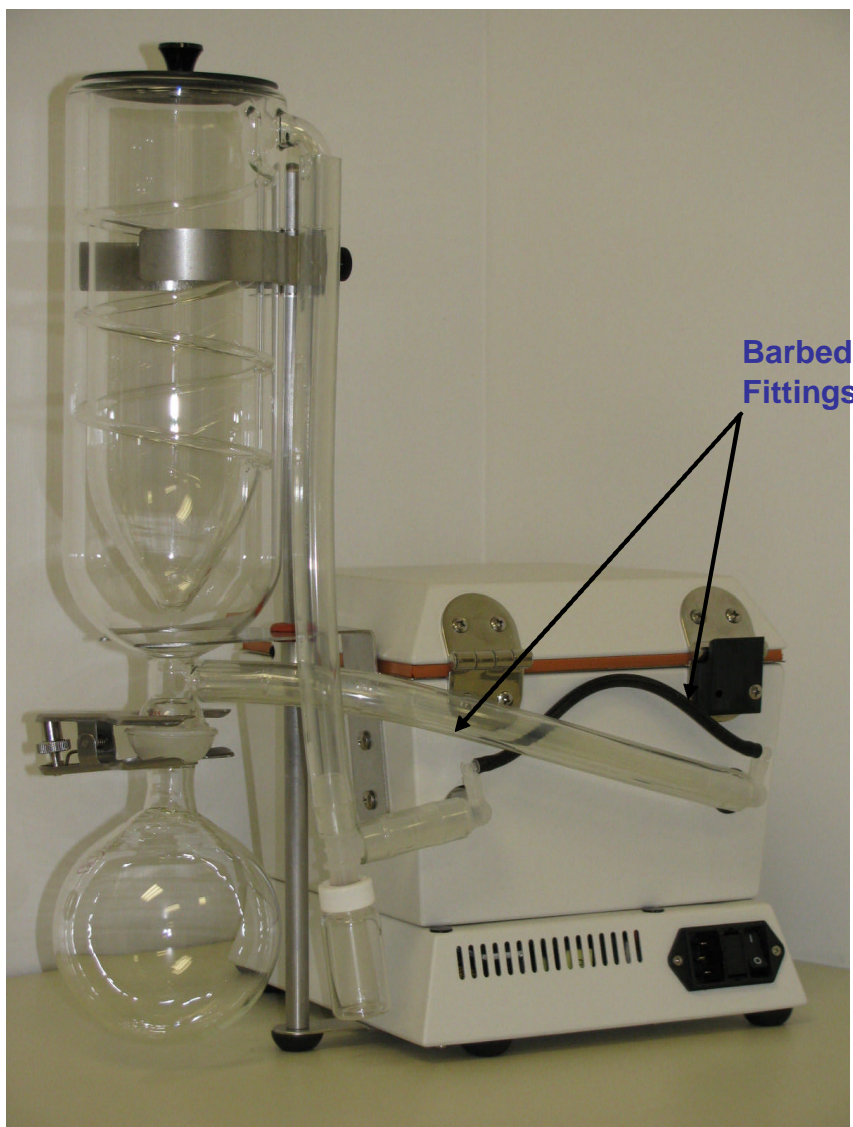

Figure 2-3: Attaching the Cold Trap Assembly and Associated Tubing
- e) Feed the cold trap down through the retaining ring and rest the curved bottom cold trap glassware in the U-shaped cradle of the bracket as shown in Figure 2-3. Rotate the cold trap into its final position so that the tubing connection fittings are directed to the rear of the Centrifan PE unit.
- f) Locate the three pieces of ½" ID tubing and make the connections on the back of the Centrifan PE unit as shown in Figure 2-3. Twist the plastic fittings as required to
- g) If your application will not require drying in an oxygen-free environment, leave the jumper-piece of 1/8" ID tubing between the two small barbed fittings as shown in Figure 2-3.